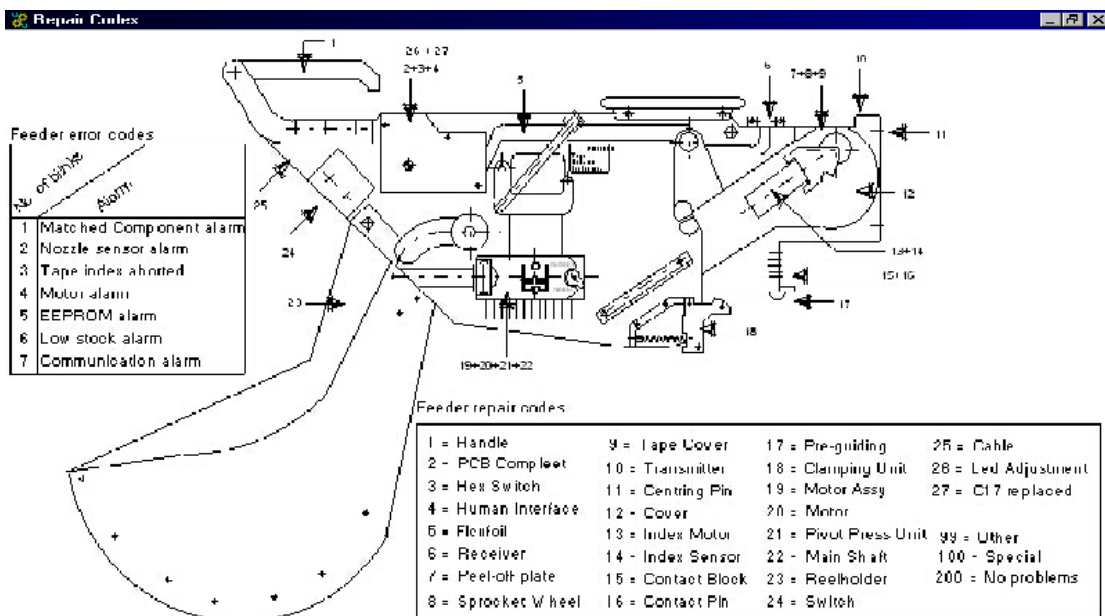

FIGURE 2-15
- Click 'Help' for the correct feeder repair codes. Figure 2-15 shows the feeder repair codes.
NOTE: Use only the repair codes as given in figure 2-15.